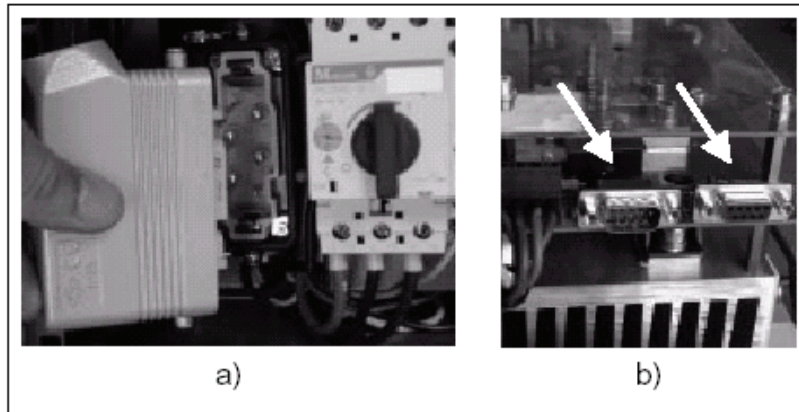

Figure 5-4 Power supply carriage connectors
- Power supply connector [Figure 5-4 a)]
- Data connectors [Figure 5-4 b)]